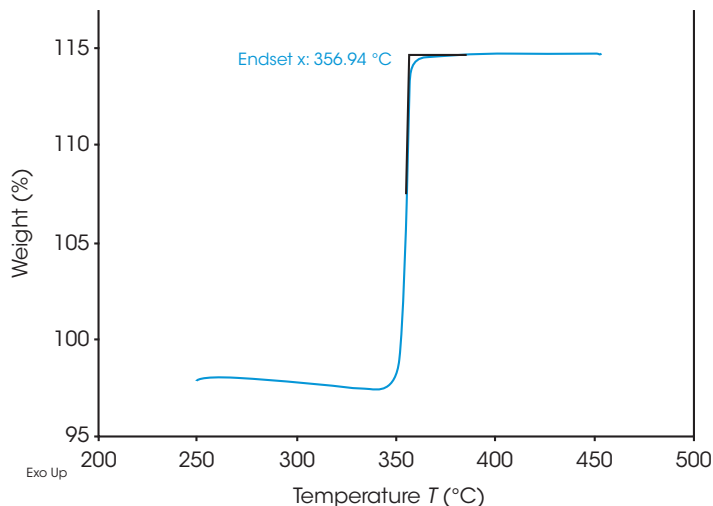

Figure 5. Thermogram for Temperature Calibration using Nickel (SDT)
4. Continue heating until an “S” shaped curve is observed. The extrapolated endpoint of the S shaped curve corresponds to the curie point; a typical curve can be seen in Figure 5.